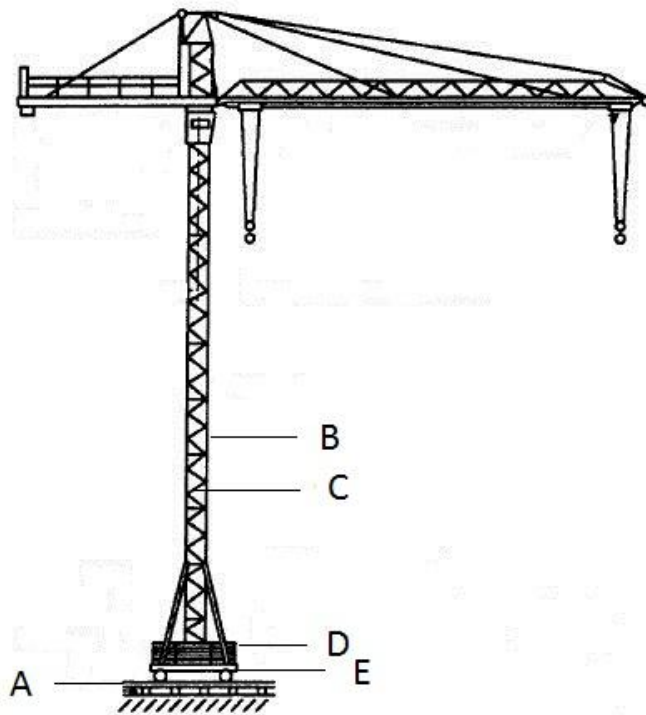

FIGURE 4
- 7.1 A tower crane on a bogie is shown in FIGURE 4. Name the parts indicated in the sketch by writing only the answer next to the letter (A–E) in the ANSWER BOOK.